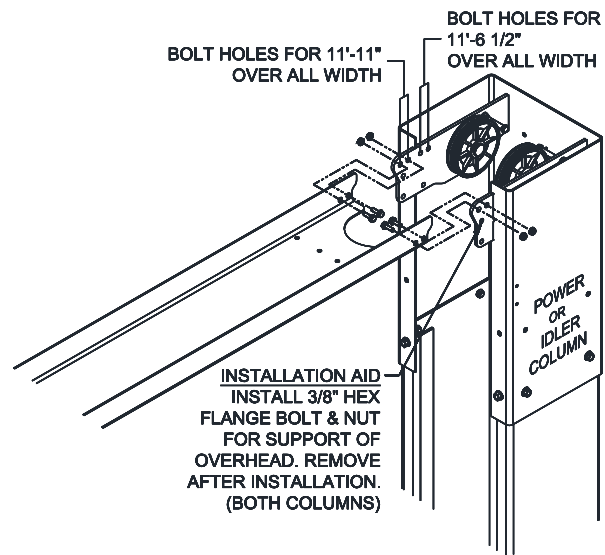

Fig 6 – Overhead Assembly
- 19) Before raising overhead into position install 4 each (2 per column) hex flange bolts and nuts in middle hole of column extension (see **Fig 6 Installation Aid**) for temporary support of overhead. Lift overhead assembly up into position and install with 8 each (4 per column) 3/8-16 x 3/4" lg hex flange bolts and hex flange nuts per side as shown in **Fig 6**.